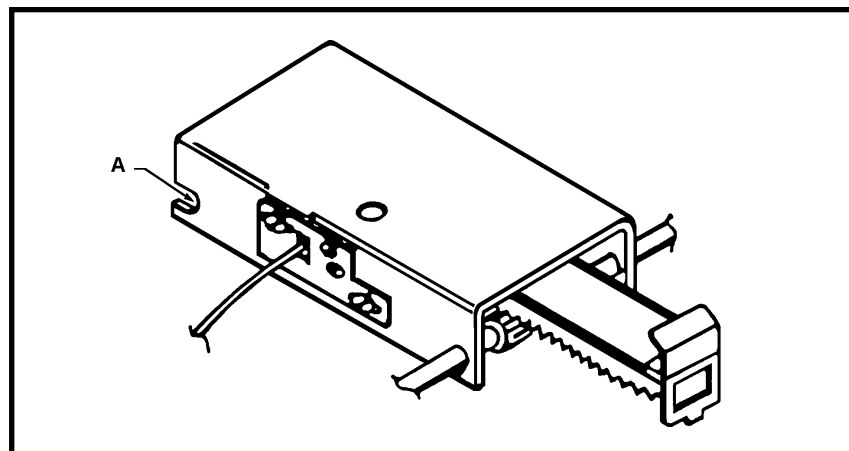

Figure 88 - Back Stop Assembly
3. The back stop assembly has cutouts (A) which must be positioned over the machine tie bar (see Figure 88).